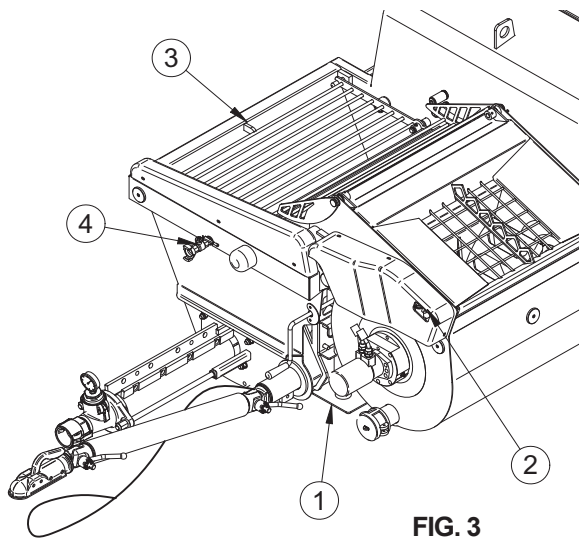
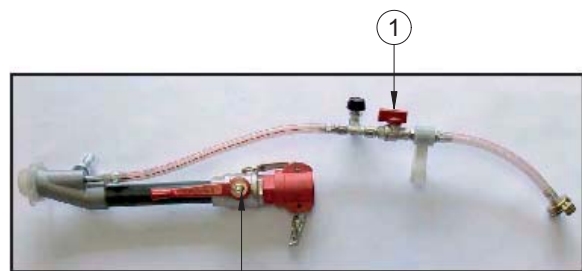

FIG. 3
Fig. 5
8) TRANSORTABILITY and TOWABILITY (fig.3)
Place the machine, correctly positioning the support feet (Fig. 3 Ref. 1). Block the wheels.
⚠ - Caution! The machine must be placed on solid, level ground, in particular where the foot rests (Fig. 3 Ref. 1) to ensure the machine is stable during operation. Make sure the mixer and hopper grille locking devices are activated. (Fig. 3 Ref. 2) and (Fig. 3 Ref. 3). Fit the pressure gauge.
After positioning the machine, prepare three or four buckets of grout (50% water, 50% cement or lime) Pour the grout into the machine hopper or, if using colouring products, directly into the machine's pipe before connecting it. In which case pour about 30-40l of coloured product into the hopper. Take the material pipes, make sure they are in good condition, the connections are integral and that the relevant gaskets are present, and connect them to the delivery manifold and the jet. Check that the cam levers (A) of the couplings have been tightened correctly and that the seal (B) is fitted as shown in fig. 4A. Open the jet's air cock (Fig. 5, Ref. 1). Open the machine's air cock (Fig. 3, Ref. 4) Make sure the mixer tipping lever is in its central position (Fig. 6, Ref. 1).
Open the jet air cock (pneumatic control) (Fig. 3 Ref. 2) and (Fig. 5, Ref. 1) and the machine starts to pump. Otherwise the machine can be started using the electric remote control, setting the selector (Fig. 7, Ref. 2) to REM, to enable the remote control. The pump starts to turn slowly. With the selector (Fig. 7, Ref. 2) set to REM, the machine is controlled exclusively by means of the electric remote control. Once the machine has started up, wait for the grout previously loaded into the hopper to be pumped out. Now stop the machine by means of the pneumatic or electric control, fill the hopper and start work. Adjust the quantity of material delivered by the jet, using the (+) and (-) buttons (Fig. 7, Ref. 6).
The material cock (Fig 5, Ref. 2) located on the jet for premixed and conventional materials must never be closed without previously closing the air cock, in order to prevent early wear of the screw unit.